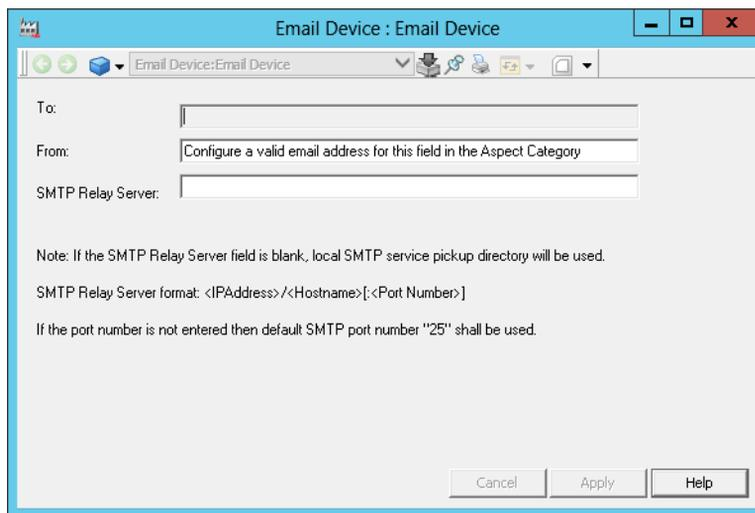

Figure 100. Email Device
3. Right-click Email Device, Aspect Category and select **Email Device** from the context menu that appears. This opens the Email Device shown in Figure 100.